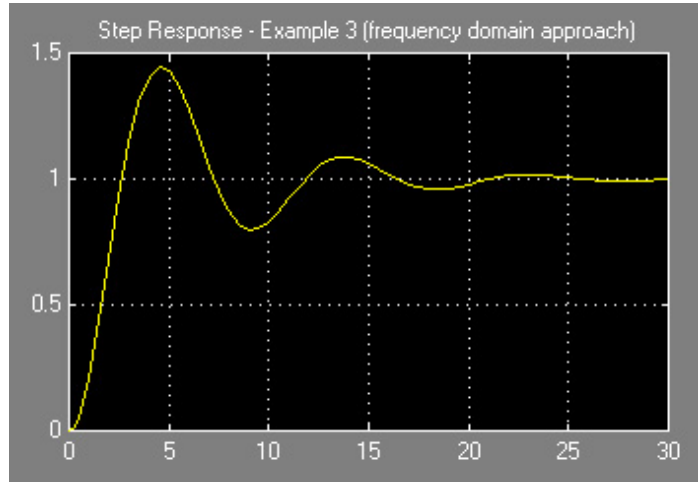

Figure E3-4
STEP 4 Run the simulation by clicking on the button (alternately you may use keyboard command CTRL+T). The screenshot of the output from the Scope block is show in Figure E3-4.
Now by comparing Figure E2-3 and Figure E3-4 you will see that the responses are identical. No surprise here since these figures effectively represent the same system, only the latter involves fewer number of blocks!